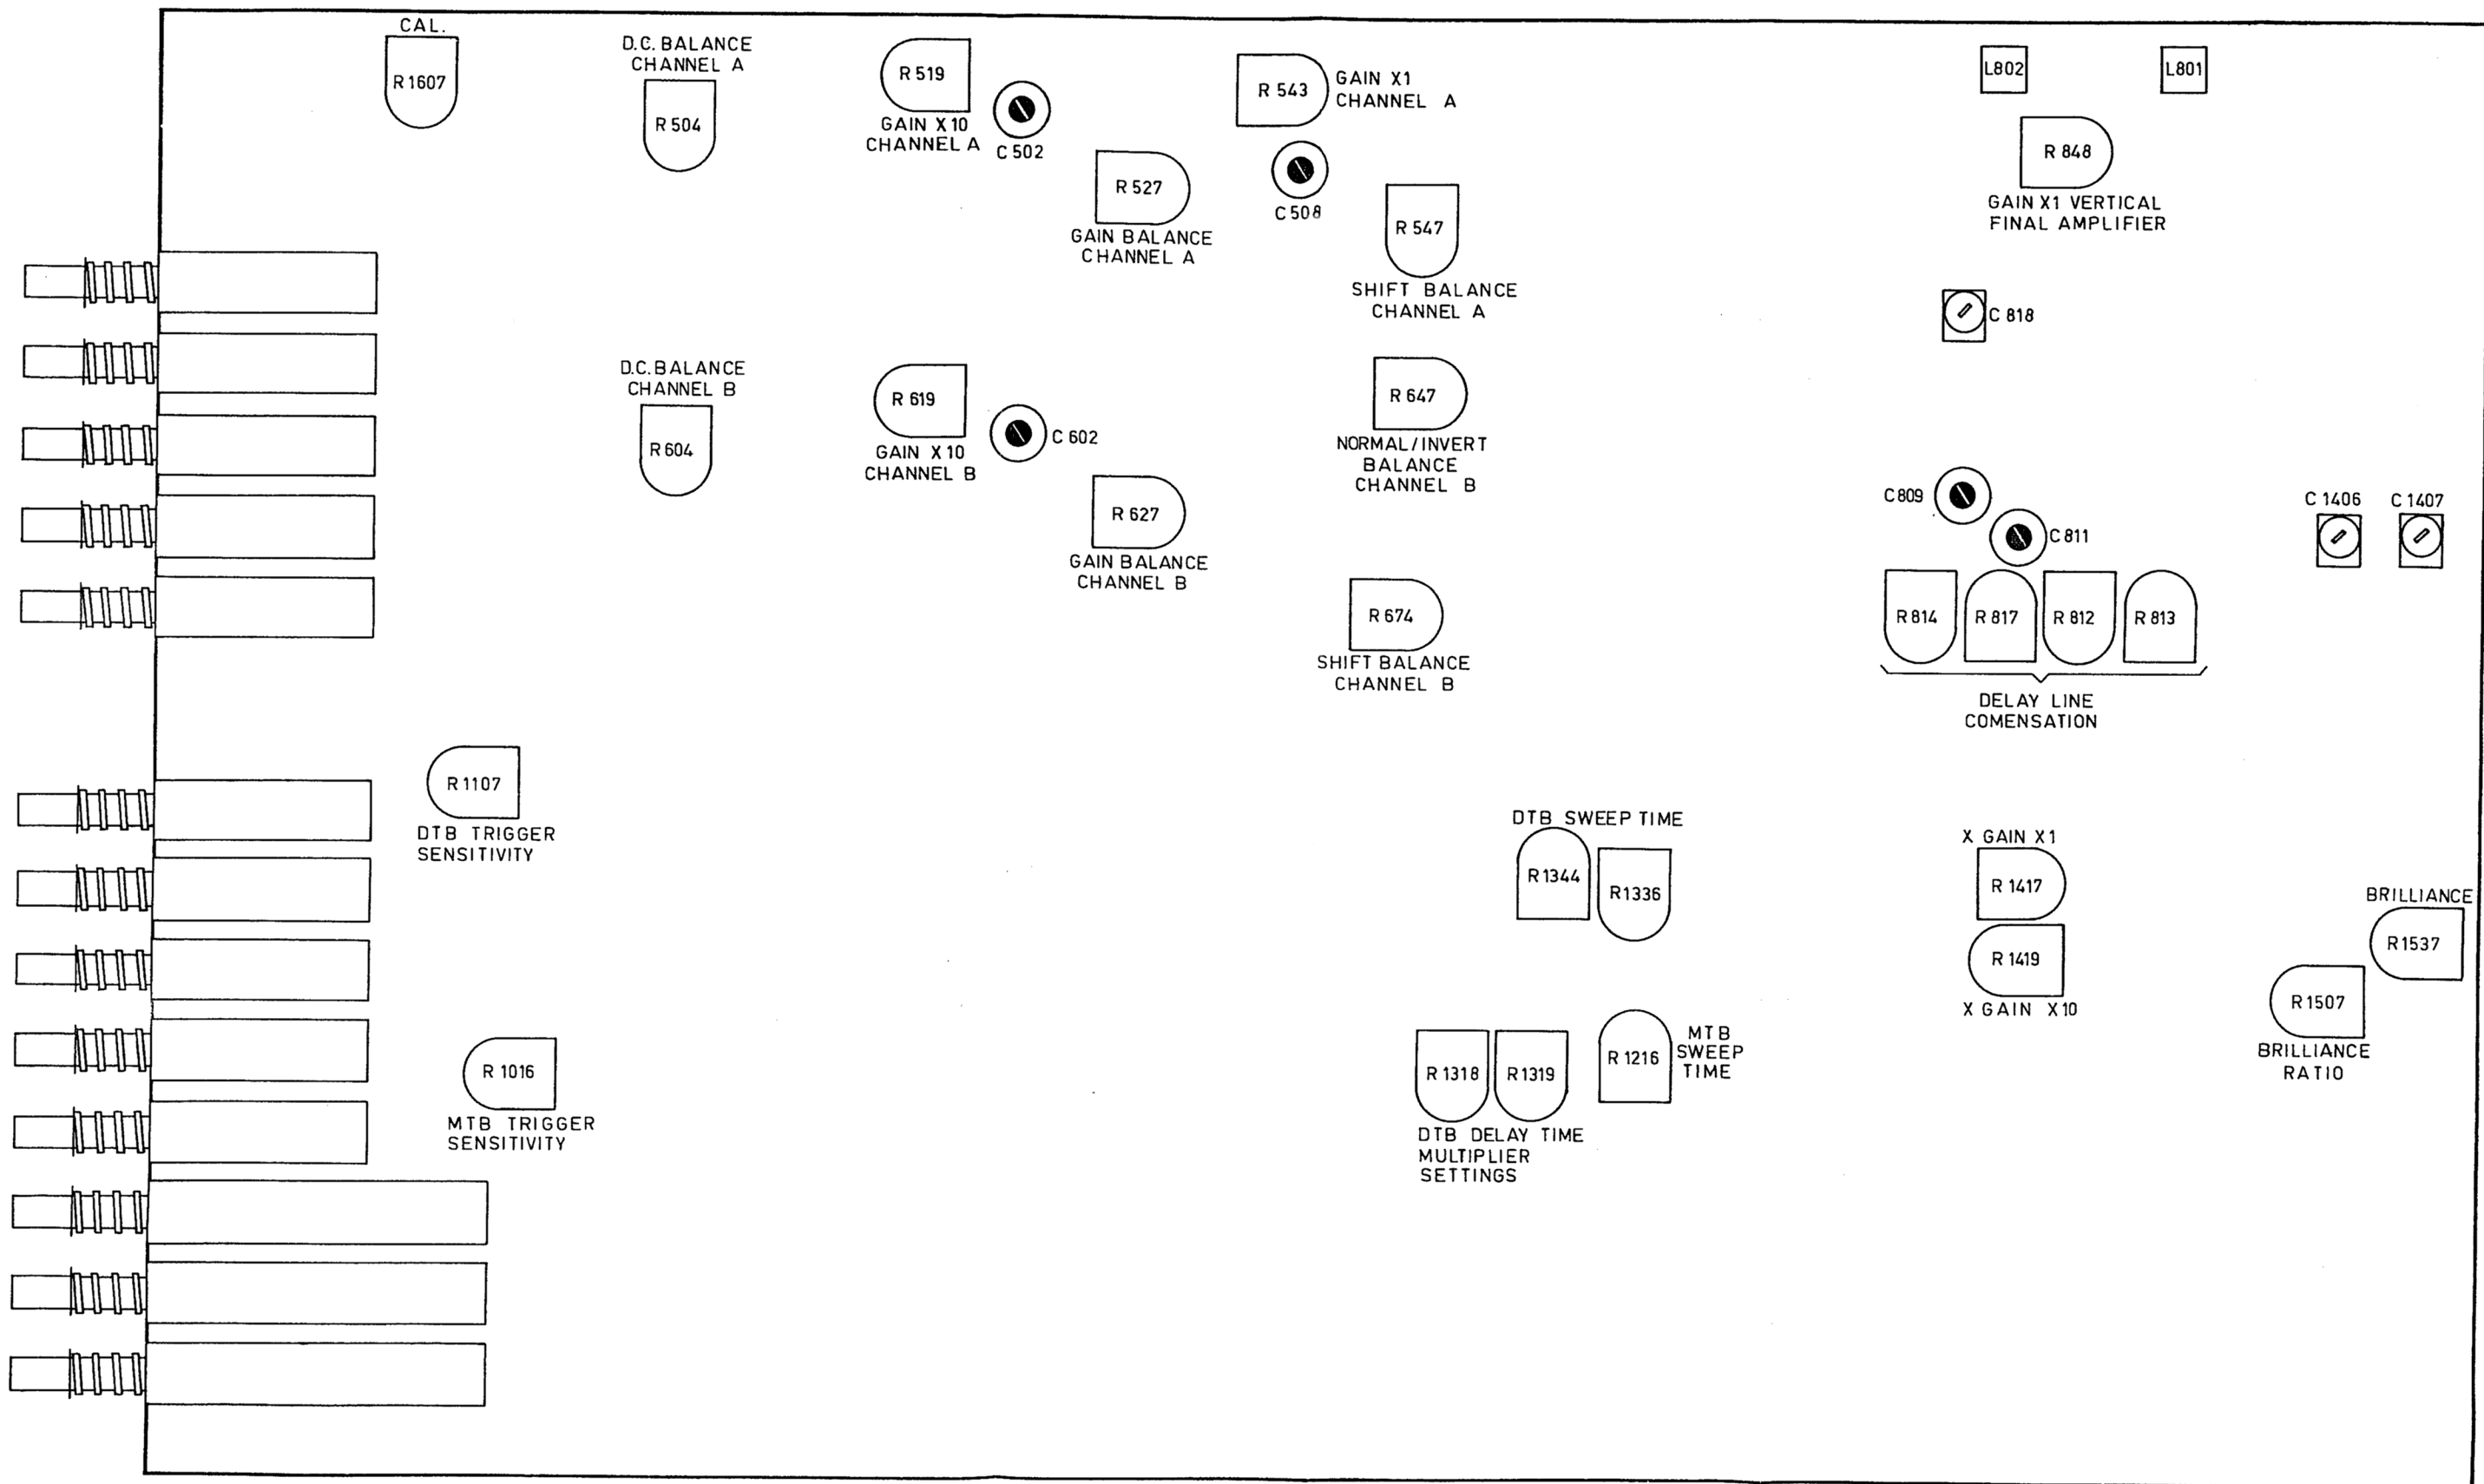

Fig. 3.19. Adjusting elements amplifier board.
- Check that the voltage on the CAL output socket is $1,2 \text{ V} \pm 1 \%$. If necessary readjust potentiometer R1602 (Fig. 3.19.).